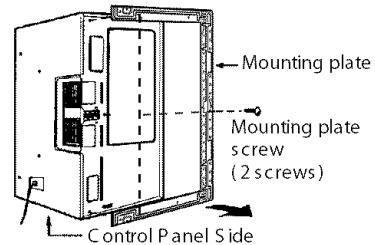

Figure 11
3. Remove mounting plate 2 screws from the mounting plate as shown and discard them. (See Figure 11)